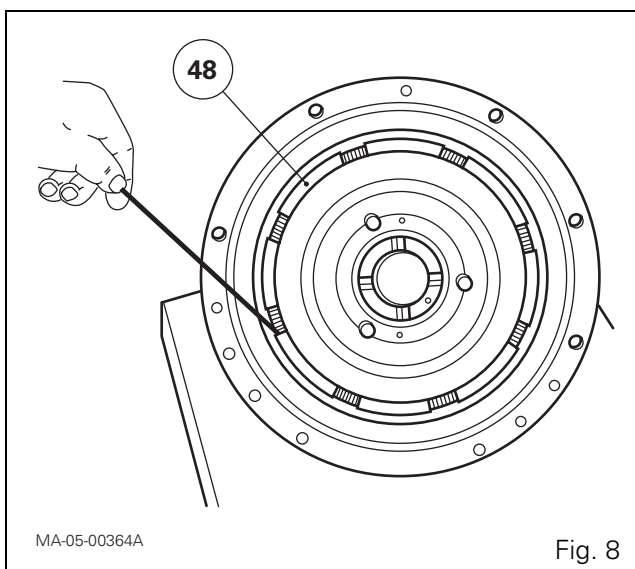

Fig. 8
10. Remove the circlip (37).
11. Remove the tab washer (38) and washer (39).
12. Separate the shaft (36) from the ring carrier (33).
13. Remove the piston (48) (Fig. 8) by lightly tapping the cover plate with a wooden block or using a jet of compressed air.